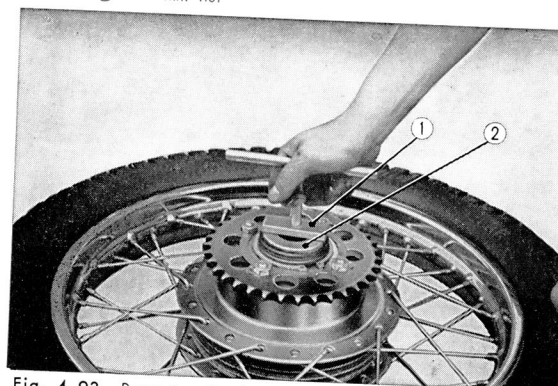

Fig. 4.93 Removing the bearing retainer
6. Use the special tool (rear wheel bearing retainer wrench) and remove the rear wheel bearing retainer. Pull out the 6304Z and 6305Z ball bearings, and rear axle spacing collar. (Fig. 4.93)